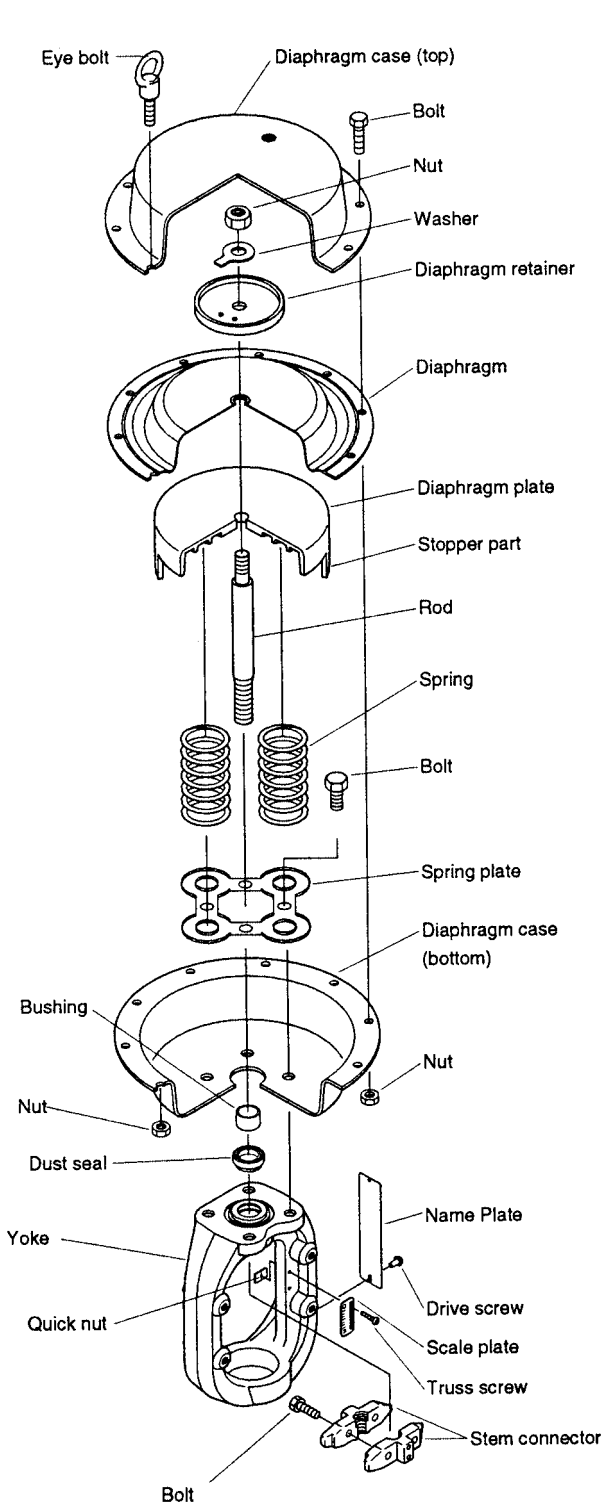
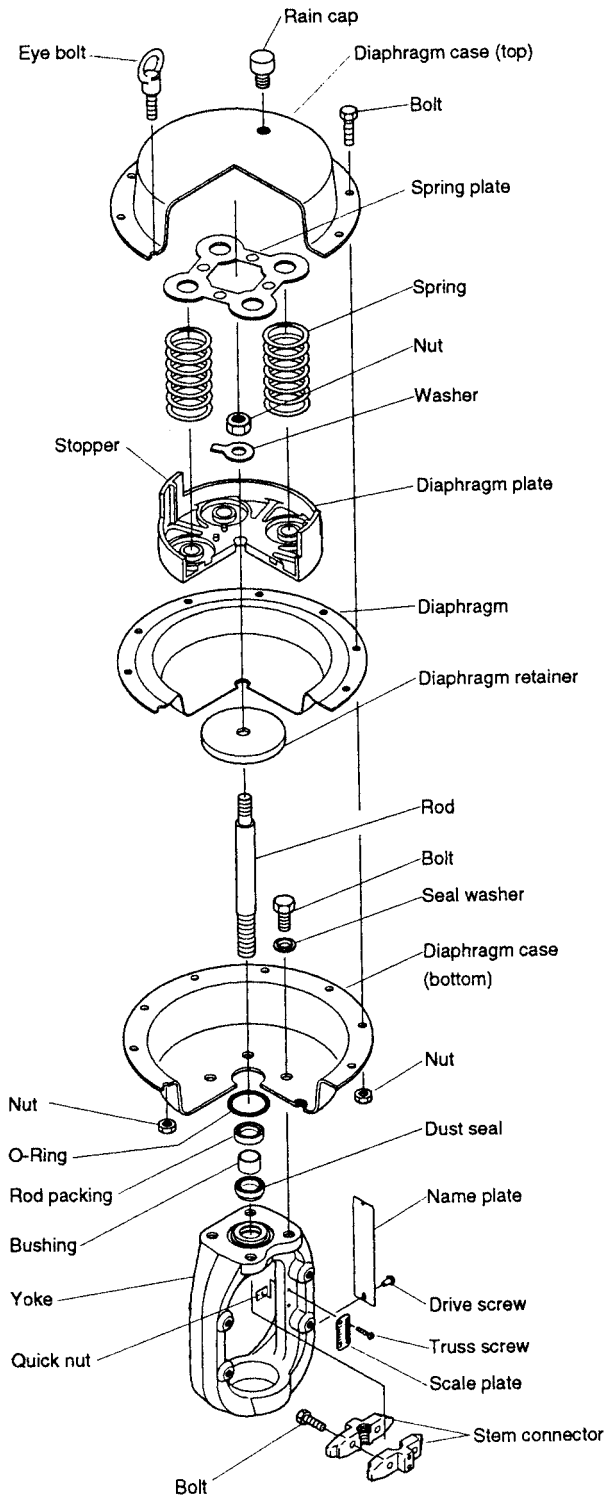

Fig. 5-4 Direct Action model PSAID
Fig. 5-5 Reverse Action model PSAIR
A. Direct action model (see Figure 5-4)
- (1) Disconnect the air piping and detach the accessories from the actuator.
- (2) Remove the stem connector.
- (3) Remove the clamping bolts (except the pair of eyebolts) from the diaphragm case.
- (4) Alternately and evenly loosen the pair of eyebolts. The initial setting of the springs is achieved using these eyebolts.
- (5) Removing the diaphragm case. Pull the actuator rod upward and out together with the diaphragm.
- (6) Take out the springs.
B. Reverse action model (see Figure 5-5)
- (1) Disconnect the air piping and detach the accessories from the actuator
- (4) Alternately and evenly loosen the pair of eyebolts. The initial setting of the springs is achieved using the eyebolts.
- (5) Remove the diaphragm case. Take on the springs.
- (6) Pull the actuator rod upward and out together with the diaphragm.
Refer to Fig.5-4.
Refer to Fig.5-5.